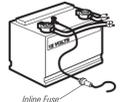

Figure 4
- 1b. If you need to wire the control head directly to a battery, obtain and install an inline fuse holder and a 3 amp fuse (not included) for the protection of the unit (Figure 4). Humminbird® is not responsible for overvoltage or over-current failures.